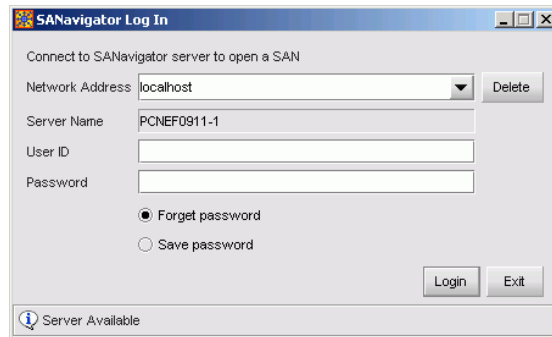

Figure 3-8 SANavigator Login or EFCM Login Dialog Box
- e. After rebooting the server at the LCD panel, log on to the management server's Windows 2000 desktop through a LAN connection to a browser-capable PC. Refer to Access the Management Server Desktop on page 2-55 for instructions. The SAN management application starts and the *SANavigator Log In* or *EFCM Log In* dialog box displays (Figure 3-8 on page 3-17).